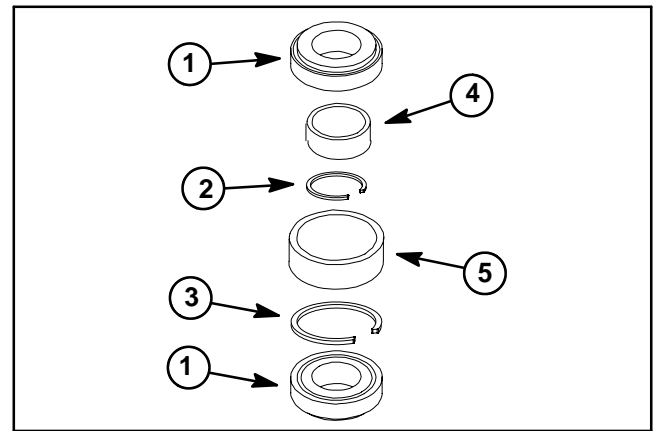

Figure 14
4. Allow the bearing cones, inner bearing spacer and spacer ring to drop out of the spindle housing (Fig. 14).
**NOTE:** A replacement spindle bearing set contains two (2) bearings, a spacer ring and a large snap ring (items 1, 2 and 3 in Fig. 14). These parts cannot be purchased separately. Also, do not mix bearing set components from one deck spindle to another.
**NOTE:** A replacement bearing spacer set includes the inner spacer and outer spacer (items 4 and 5 in Fig. 14). Do not mix bearing spacers from one deck spindle to another.
**IMPORTANT: If bearings are being replaced, make sure to use the spacer ring that is included with new bearing set (Fig. 14).**